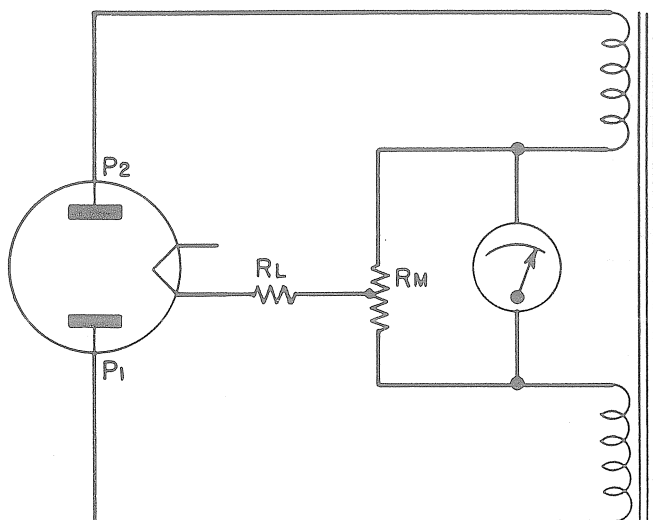

Figure 2-1. Rectifier Diagram
### 2. THEORY OF OPERATION OF TUBE TESTER SECTION. (See Figures 2-1 and 2-2)
a. Examine first the simple full-wave rectifier circuit shown in figure 2-1. The two power transformer secondary windings have their inner ends connected to a direct-current milliammeter. Across the milliammeter is a center-tapped resistor  $R_M$ . The load is shown as a resistance  $R_L$ , connected between the center tap and the rectifier filament as in any full-wave rectifier circuit. When rectifier plate  $P_2$  is positive, electron flow is through the upper half of  $R_M$ , and the meter tends to deflect in one direction. When  $P_1$  is positive, electron flow is through the lower half of  $R_M$ , and the meter tends to deflect in the other direction. With the load resistance fixed and equal forces acting on the meter in both cases, the meter stays at zero because it cannot follow variations at the power line frequency.